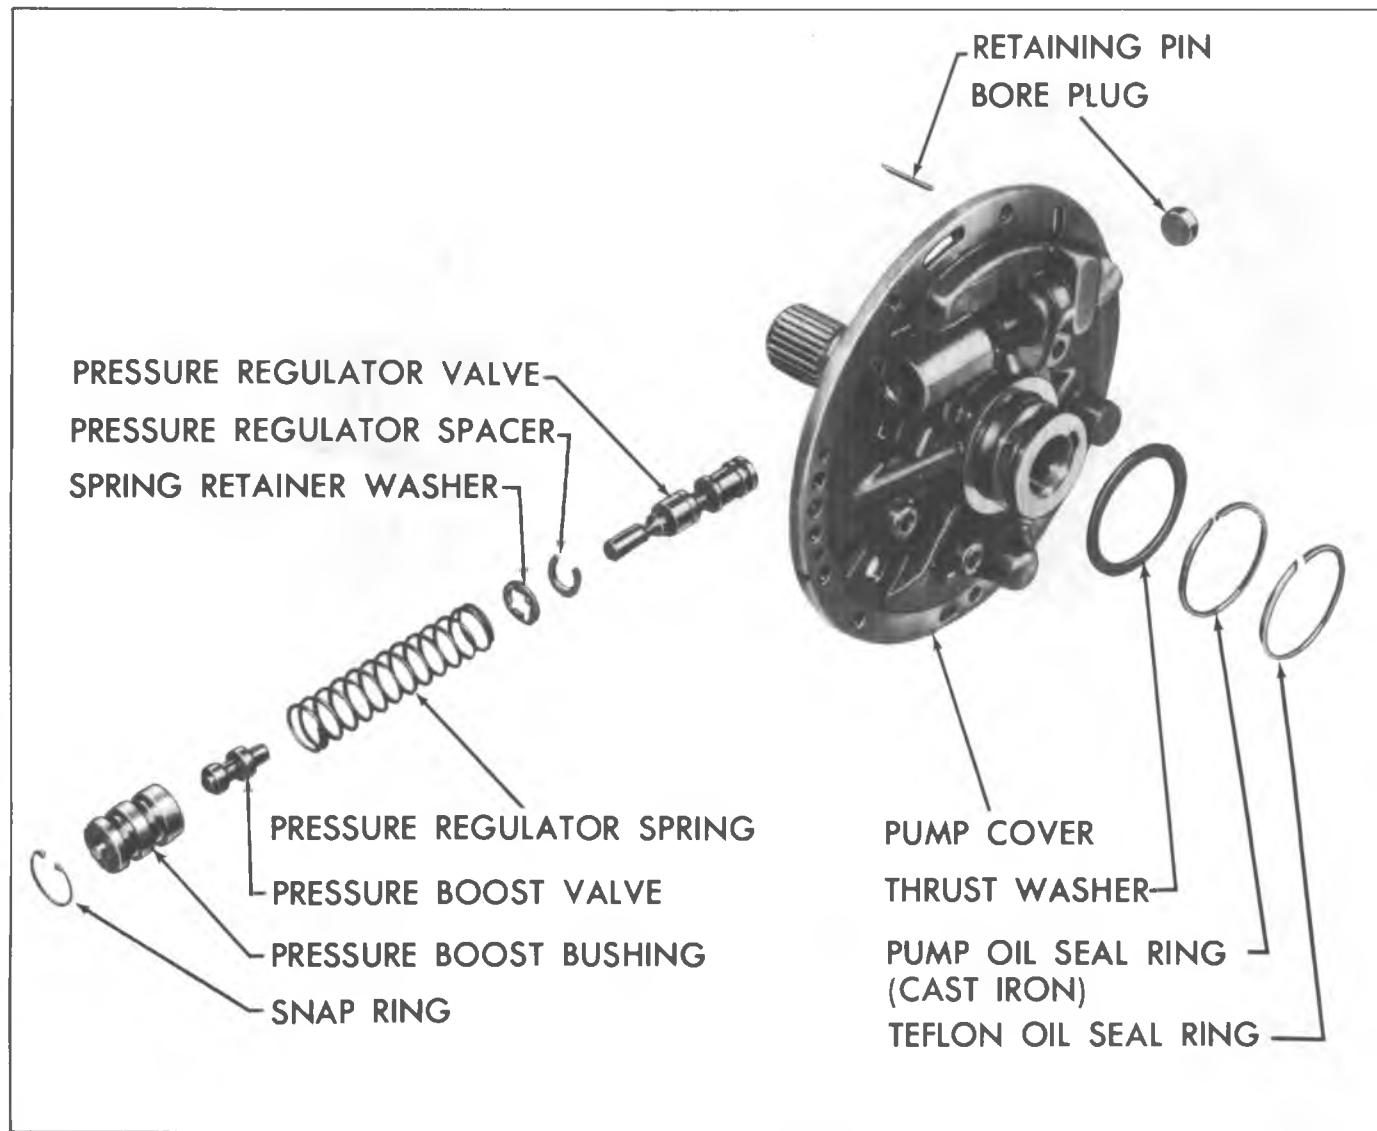

Fig. 7A-77C--Pump Cover--Exploded View
9. Install two (2) hook type oil seal rings.
10. Assemble pump cover to pump body with attaching bolts (Fig. 7A-78C).
assembly, less rubber seal ring, upside down into the pump bore of the case (Fig. 7A-79C).